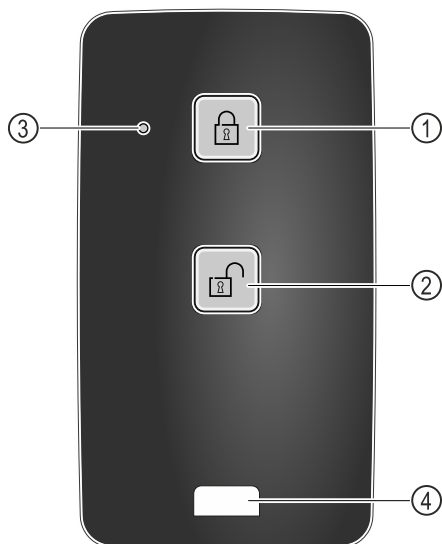

Fig. 219
- ▶ Press button Fig. 219 (1) on the remote control.
- ▶ Press button Fig. 219 (2) on the remote control.
- ▶ Status LED Fig. 219 (3) provides a visual acknowledgement when you press the button.
- ▶ Eyelet Fig. 219 (4) for attaching remote control, for example, to a key ring.